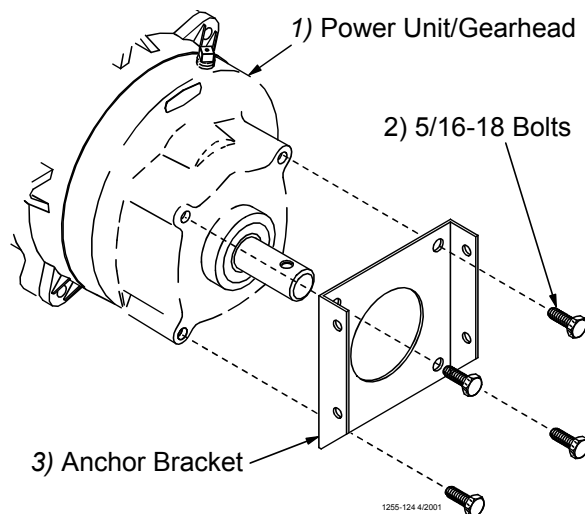

Figure 48. Assemble the Anchor Bracket to the Power Unit/Gearhead
3. Install the Anchor Bracket to the Power Unit/Gearhead, as shown in **Figure 48**, with the included 5/16-18 Bolts.